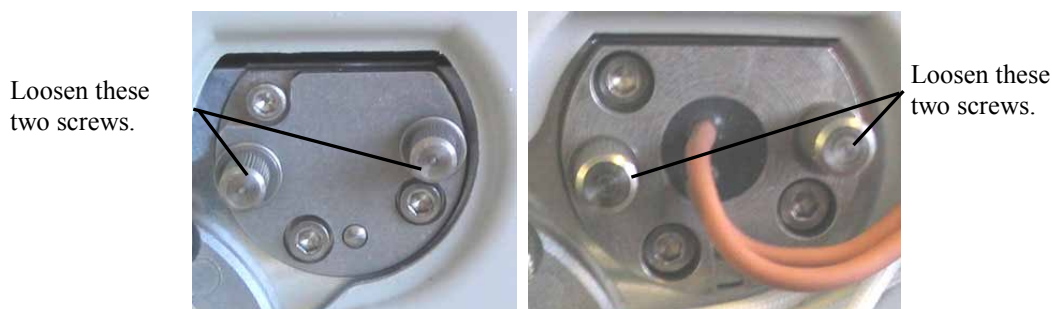

Fig. 33: Tungsten lamp screws
4. *When installing the tungsten lamp for the first time* Loosen the two screws on the plate that closes the lamp housing of the tungsten lamp (→ Fig. 33).
Loosen the two screws in the lamp flange (→ Fig. 33) and pull out the lamp.